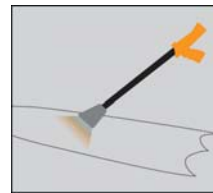

Figure 4:
3. Ensure that no moisture is present prior to applying the PreMark® SP Sealer onto the pavement surface. Surface moisture is not often visible so you should assume that some moisture is present. Remove moisture by drying the application area with a propane fueled torch such as the Flint 2000EX™ or Magnum Heat Torch. *See Figure 4.*